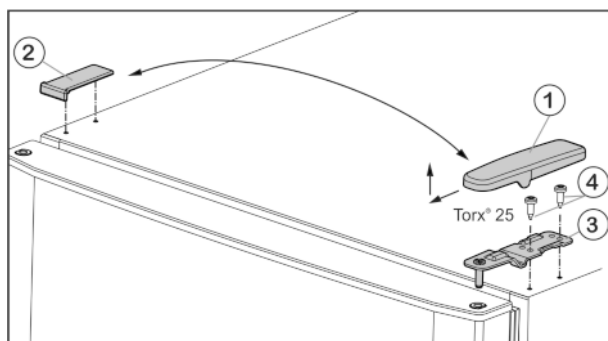

Fig. 5
- Pull the cover Fig. 5 (1) forwards and upwards.
- Lift off the cover Fig. 5 (2).
- Unscrew top bearing block Fig. 5 (3)(2x Torx® 25) Fig. 5 (4) and lift off in upward direction.
- Install the upper bearing block Fig. 5 (3) on the new hinge side and in the door.
- Screw in the upper bearing block **tightly (with 4 Nm)**(2x Torx® 25) Fig. 5 (4). Use a cordless screwdriver if necessary.
- Slide on the cover Fig. 5 (1) on the opposite side from the outside and snap it into place.
- Slide on the cover Fig. 5 (2) on the opposite side from above until it snaps into place.